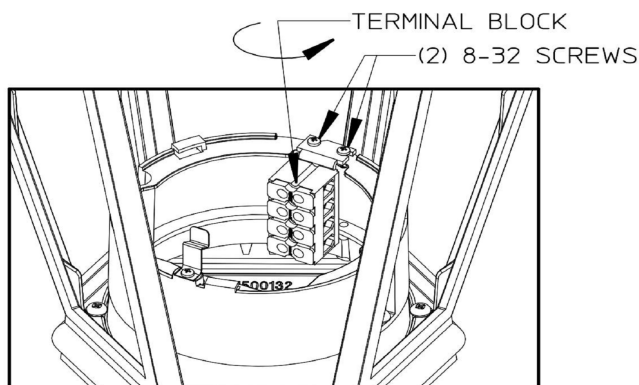

FIGURE 4
- 2.4 Loosen the (2) phillips screws and rotate the terminal block bracket in order to remove it from the housing [see FIG.4 on page 3].